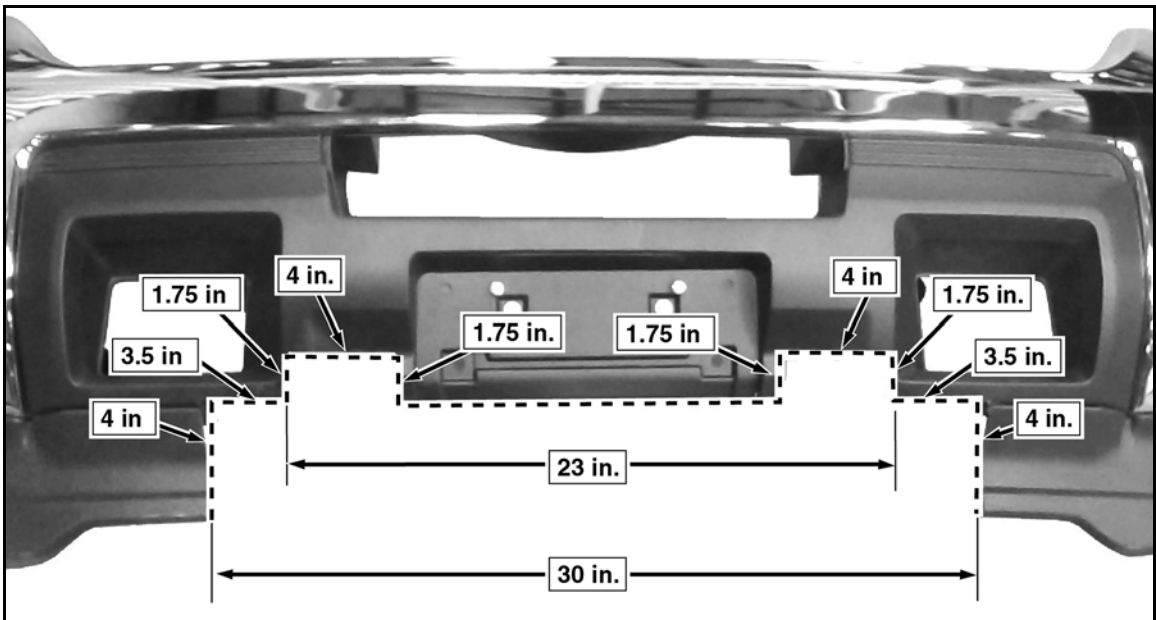

Figure 7
- F. Steps A-E removes the interfering integrated metal in the bumper. The remaining plastic can be modified and cut as usual for the VMK. See Figure 7 for reference of how to cut the plastic for setting the VCM to 10 in. Keep in mind height dimensions 4 in. & 1.75 in. may vary depending on the ride height of the truck.